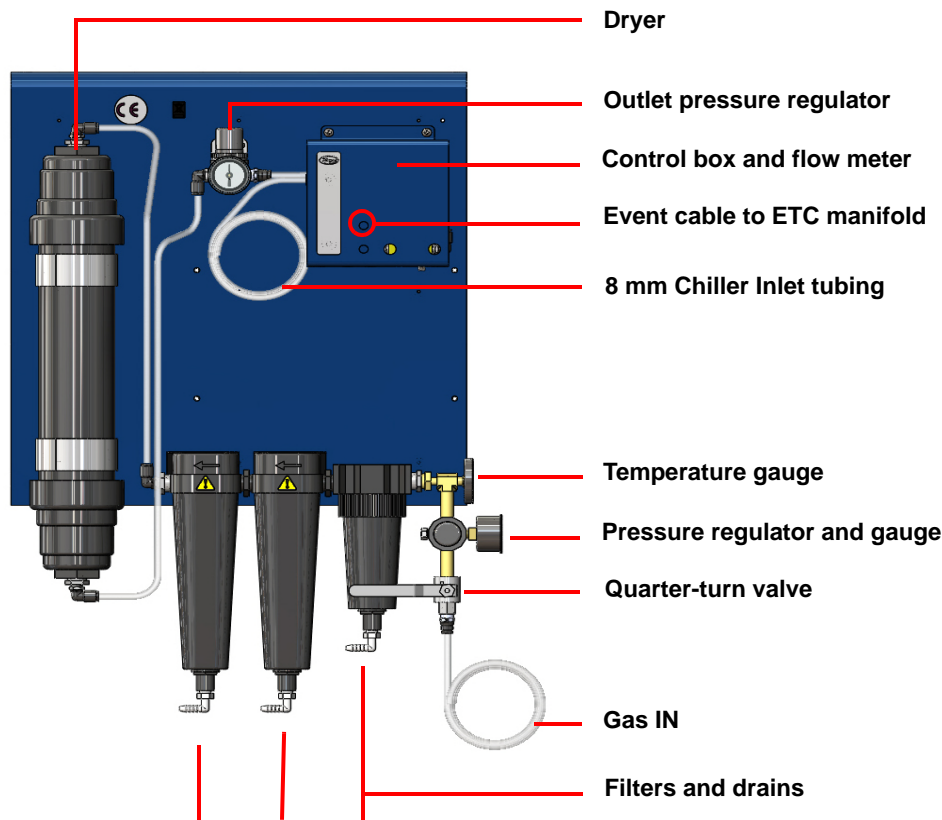
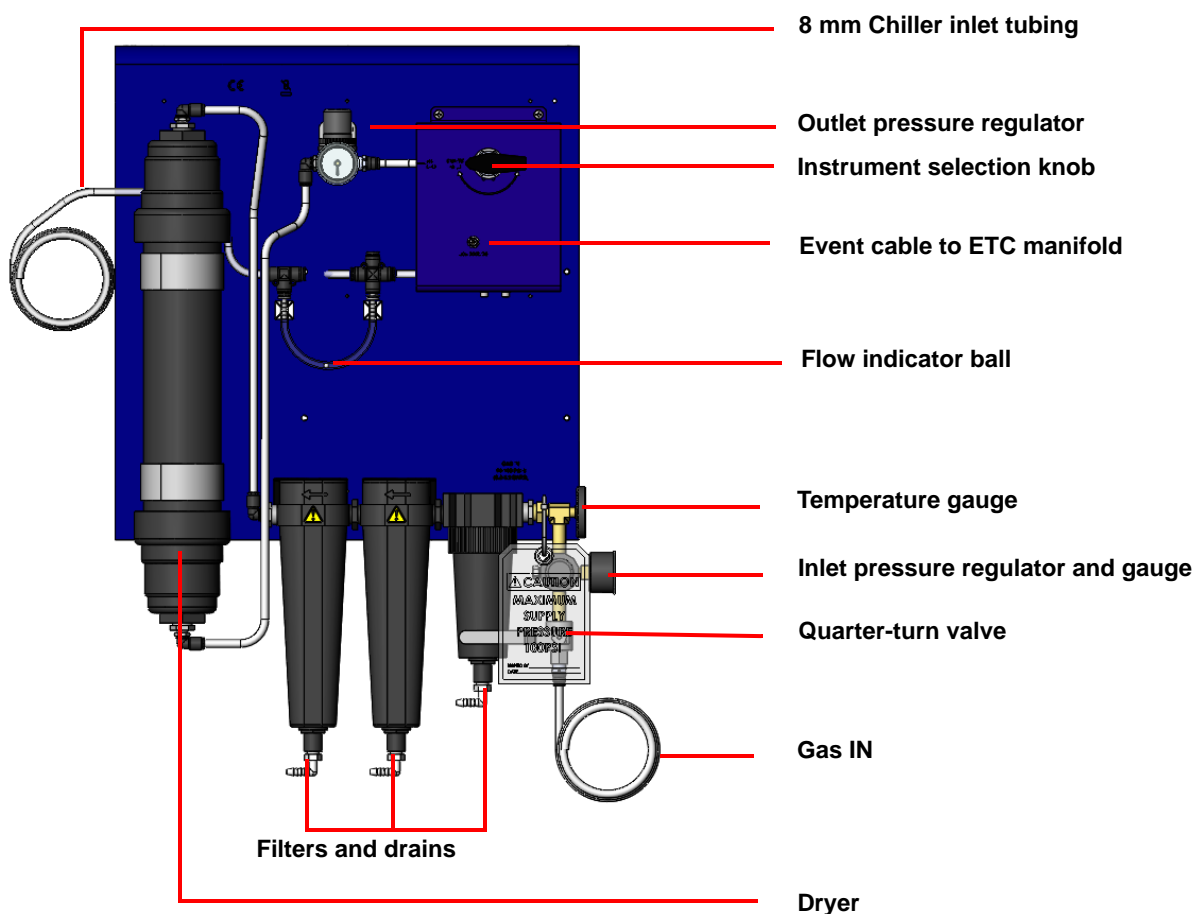

Figure 15 Stand-alone DHR Chiller Panel.
Figure 16 Combined DHR/DMA Chiller Panel.
- 2 Place the Air Chiller with attached Chiller Panel next to the DHR. Refer to Figure 15 for the Stand-alone DHR Air Chiller Panel and Figure 16 for the Combined DHR/DMA Chiller Panel.